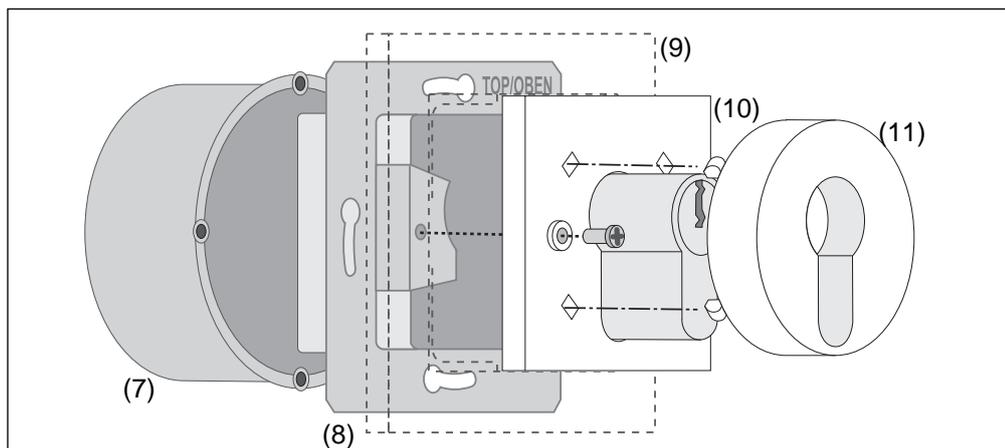

Figure 6
- Position switch insert/push-button insert (8) in the connection box (7) and screw in place. Note marking **TOP/OBEN** (Figure 6).
- Fit frame (9) on the switch insert/push-button insert.
- Using the key, move lock bit into position, fit centre plate and profile half cylinder (10) and screw in place.
- Snap on cover (11) for the profile half cylinder.